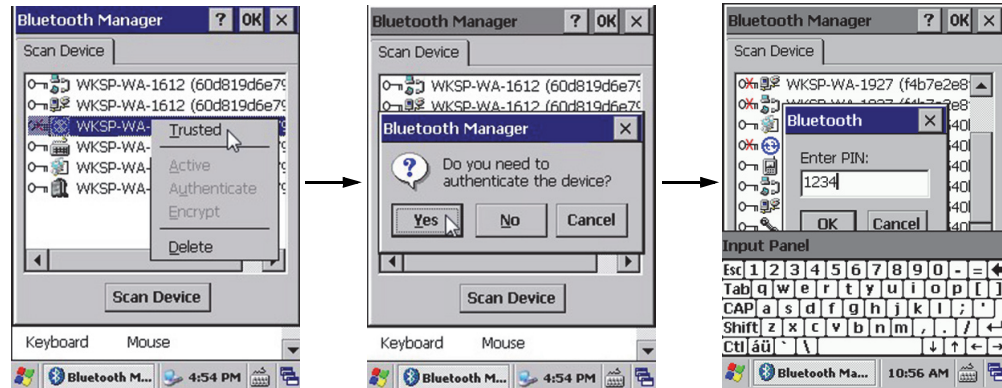

Figure G-9 Computer authentication process
9. Tap the **Trusted** menu selection, and then tap **Yes** in the message box (see Figure G-9 on page 181).
11. Enter **1234** in the **Enter PIN** box, and then tap **OK** (see Figure G-9 on page 181).